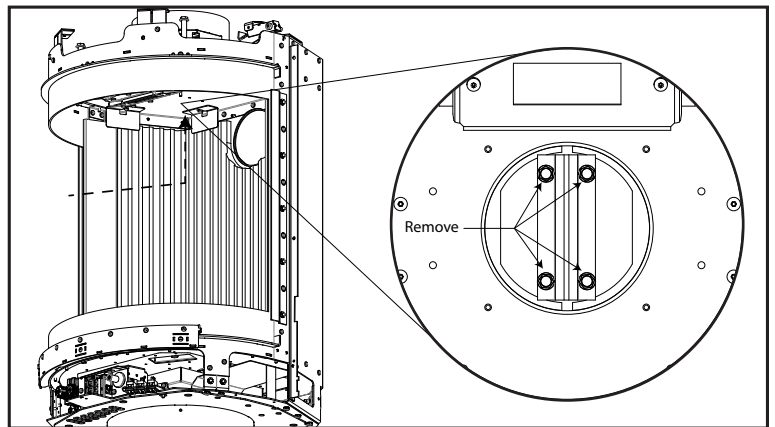

Figure 68: Restrictor Plate Removal
5. Rotate the restrictor disk by hand from inside the firebox until the four (4) screw heads are exposed; remove them using a 5/16" socket (see Figure 68). The finger catch can be loosened and moved if it is inhibiting the movement of the restrictor.